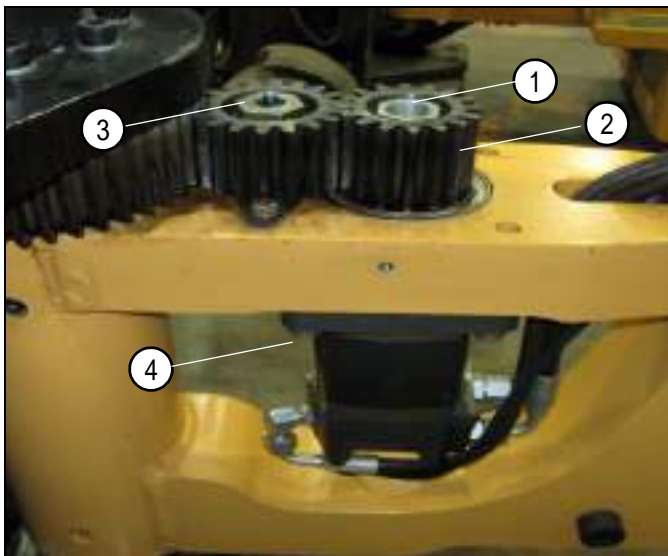

Figure 3-3 Steering Motor and Gears (Cover off)
1. Refer to Figure 3-3, with instructions.
7. Remove the hydraulic gear nut - item 1.
9. If needed, remove idler gear assembly - item 3.